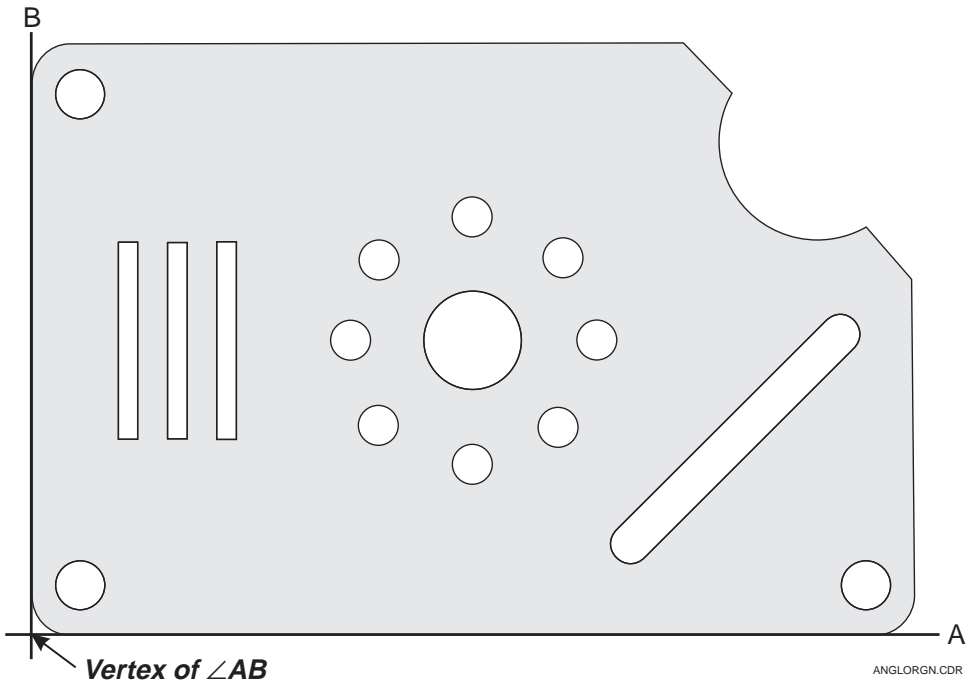

Figure 4-4. Origin Defined in Terms of the Vertex of an Angle
1. Assume the reticle's bottom horizontal and left vertical edges are legs of an angle whose vertex will also be the origin, as shown in Figure 4-4.